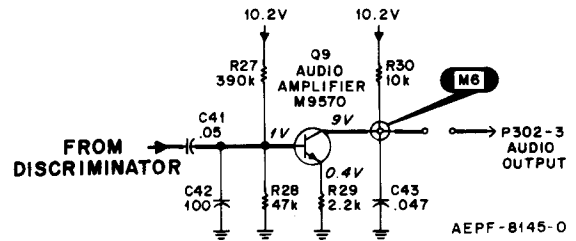

Figure 81. Typical Audio Amplifier Stage
(4) Audio Amplifier Stage (Refer to Figure 81)